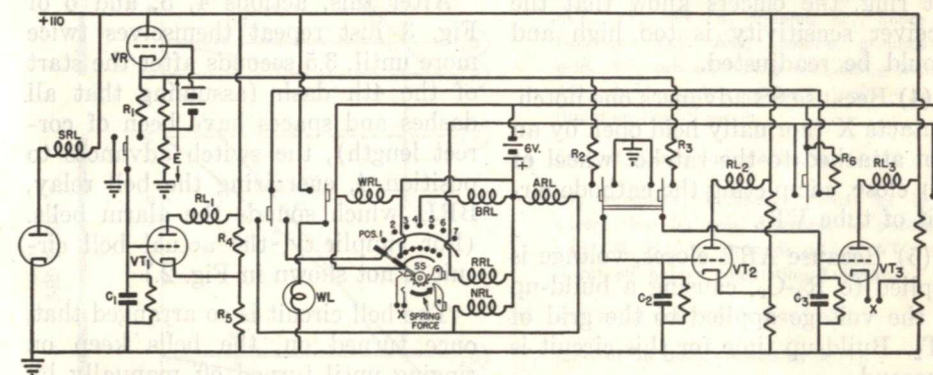

FIG. 2. Simplified circuit diagram of RMCA auto alarm selector.
Fig. 2 is a simplified schematic diagram of the selector unit. Three R-C combinations, each with a different time constant, are used for timing in this unit. These are R₁-C₁, R₂-C₂, and R₃-C₃. Each can be connected by the operation of a relay to the voltage source E, which has a regulated value of about 57 volts.
The heart of the selector is the stepping switch SS. This switch contains a ratchet wheel to which a contact arm is fastened. Movement of the wheel moves the contact arm over a series of fixed contacts. As you can see from the diagram in Fig. 2, the switch can have any one of seven positions.
A relay coil, marked BRL in Fig. 2, is connected to the fixed contact at position 4 of the stepping switch. Operation of the relay of which the coil is a part rings the warning bell of the auto alarm. Thus, the purpose of the whole selector unit is to advance the stepping switch to its
Let us first see what happens when a correctly timed signal is received. Our explanation will be based on Figs. 2 and 3; the latter is a plot that shows how the various tubes in the selector operate when a distress signal is received.
After this, actions 4, 5, and 6 of Fig. 3 just repeat themselves twice more until, 3.5 seconds after the start of the 4th dash (assuming that all dashes and spaces have been of correct length), the switch advances to position 4, energizing the bell relay, BRL, which sounds the alarm bells. (For simplicity, the actual bell circuit is not shown in Fig. 2.)
Three of the selector relays (RL₁, RL₂, and RL₃ of Fig. 2) are mounted inside a thermostatically controlled oven, kept at a temperature of 55° C. The other relays are mounted close to the oven.
4. A 5-position Current Switch. The first 4 positions of this switch insert the milliammeter in the plate circuit of the 3 selector tubes (VT₁, VT₂, and VT₃ of Fig. 2) or in the plate circuit of VT₅ (Fig. 1).
The lower part of the frame contains fuse blocks, the C bias battery for the regulator tube grid (VR in Fig. 2), choke coils to keep r.f. from the 115-volt supply line, a battery relay to ring the bells when the battery voltage falls below 4.5 volts, a line relay to ring the bells when the line voltage falls below 90 or rises above 130 volts; various resistors to supply the correct voltages to the